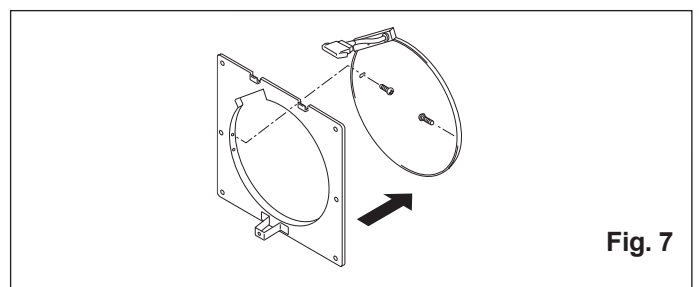

Fig. 7
9. Press the mounting plate tightly against the wall and secure to the outside of the wall sleeve with the supplied screws (screw II). (Fig. 7)